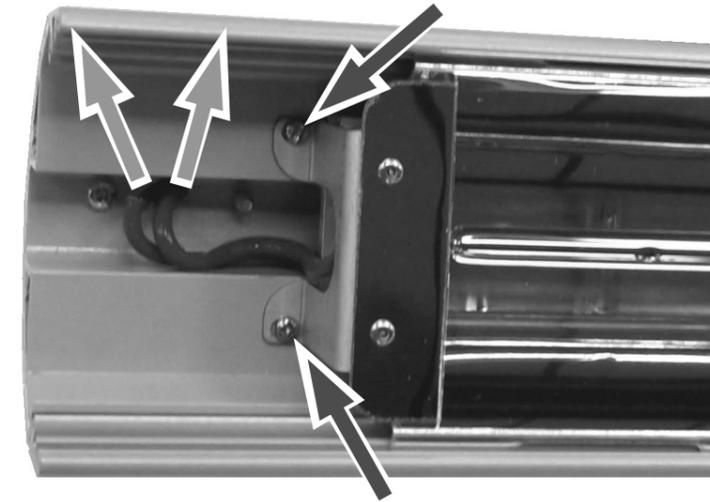

Fig. 5
7. Remove the two screws as highlighted on in Fig. 5 to take out the side reflector bracket and reflector assembly that allows access the emitter holding clip. Repeat at opposite end of emitter.
8. Where the emitter wires are fed through the gasket into the terminal box (Fig. 5), gently pull the emitter wires through the body of the heater so the wires exit the terminal box.